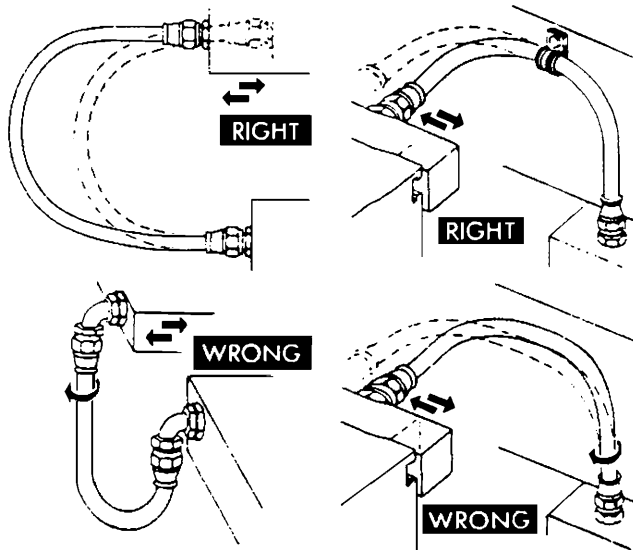

Figure 24: Flexing installations.
- Hose should be bent in same plane as movement to avoid twisting. See **Figure 24**.
- Hose flexing in two directions should be clamped at the point where the hose changes planes. (This has effect of dividing hose into sections, each in one plane.) See **Figure 24**.